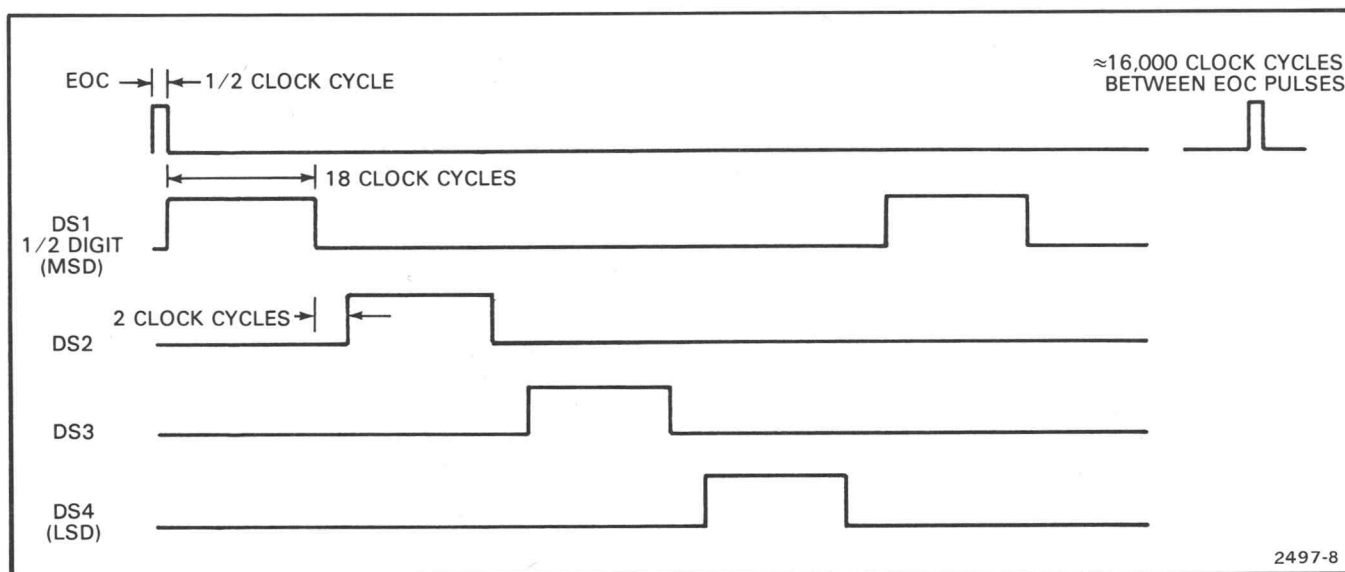

Fig. 3-15. Digital select timing diagram.
The results of a conversion cycle will be stored in the output latches if a display update pulse is applied to pin 9 prior to segment 5. The resulting information stored in the latches are multiplexed out through the digit select outputs at pins 19, 18, 17 and 16 (i.e., DS1, DS2, DS2 and DS4 respectively). The digit select output is high when the respective digit is selected. The most significant digit (MSD) turns on immediately after an EOC pulse followed by the remaining digits, sequencing from most-significant digit (MSD) to least-significant digit (LSD). An interdigit blanking time of two clock periods is included to ensure that the binary-coded decimal (BCD) data from the Q output (pins 20, 21, 22 and 23 of U3921) has settled. The multiplex cycle rate is about 4000 Hz. Relative timing between the digit select (DS) output and the EOC signals is shown in Figure 3-15.